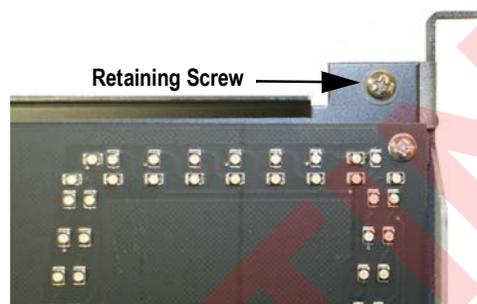

Figure 2-4. Retaining Screw Location
2. Loosen the retaining screws located on the front of mounting plate (Figure 2-4). The mounting plate is hinged on a backplate frame to allow easier access to the AC wiring and the CPU board.